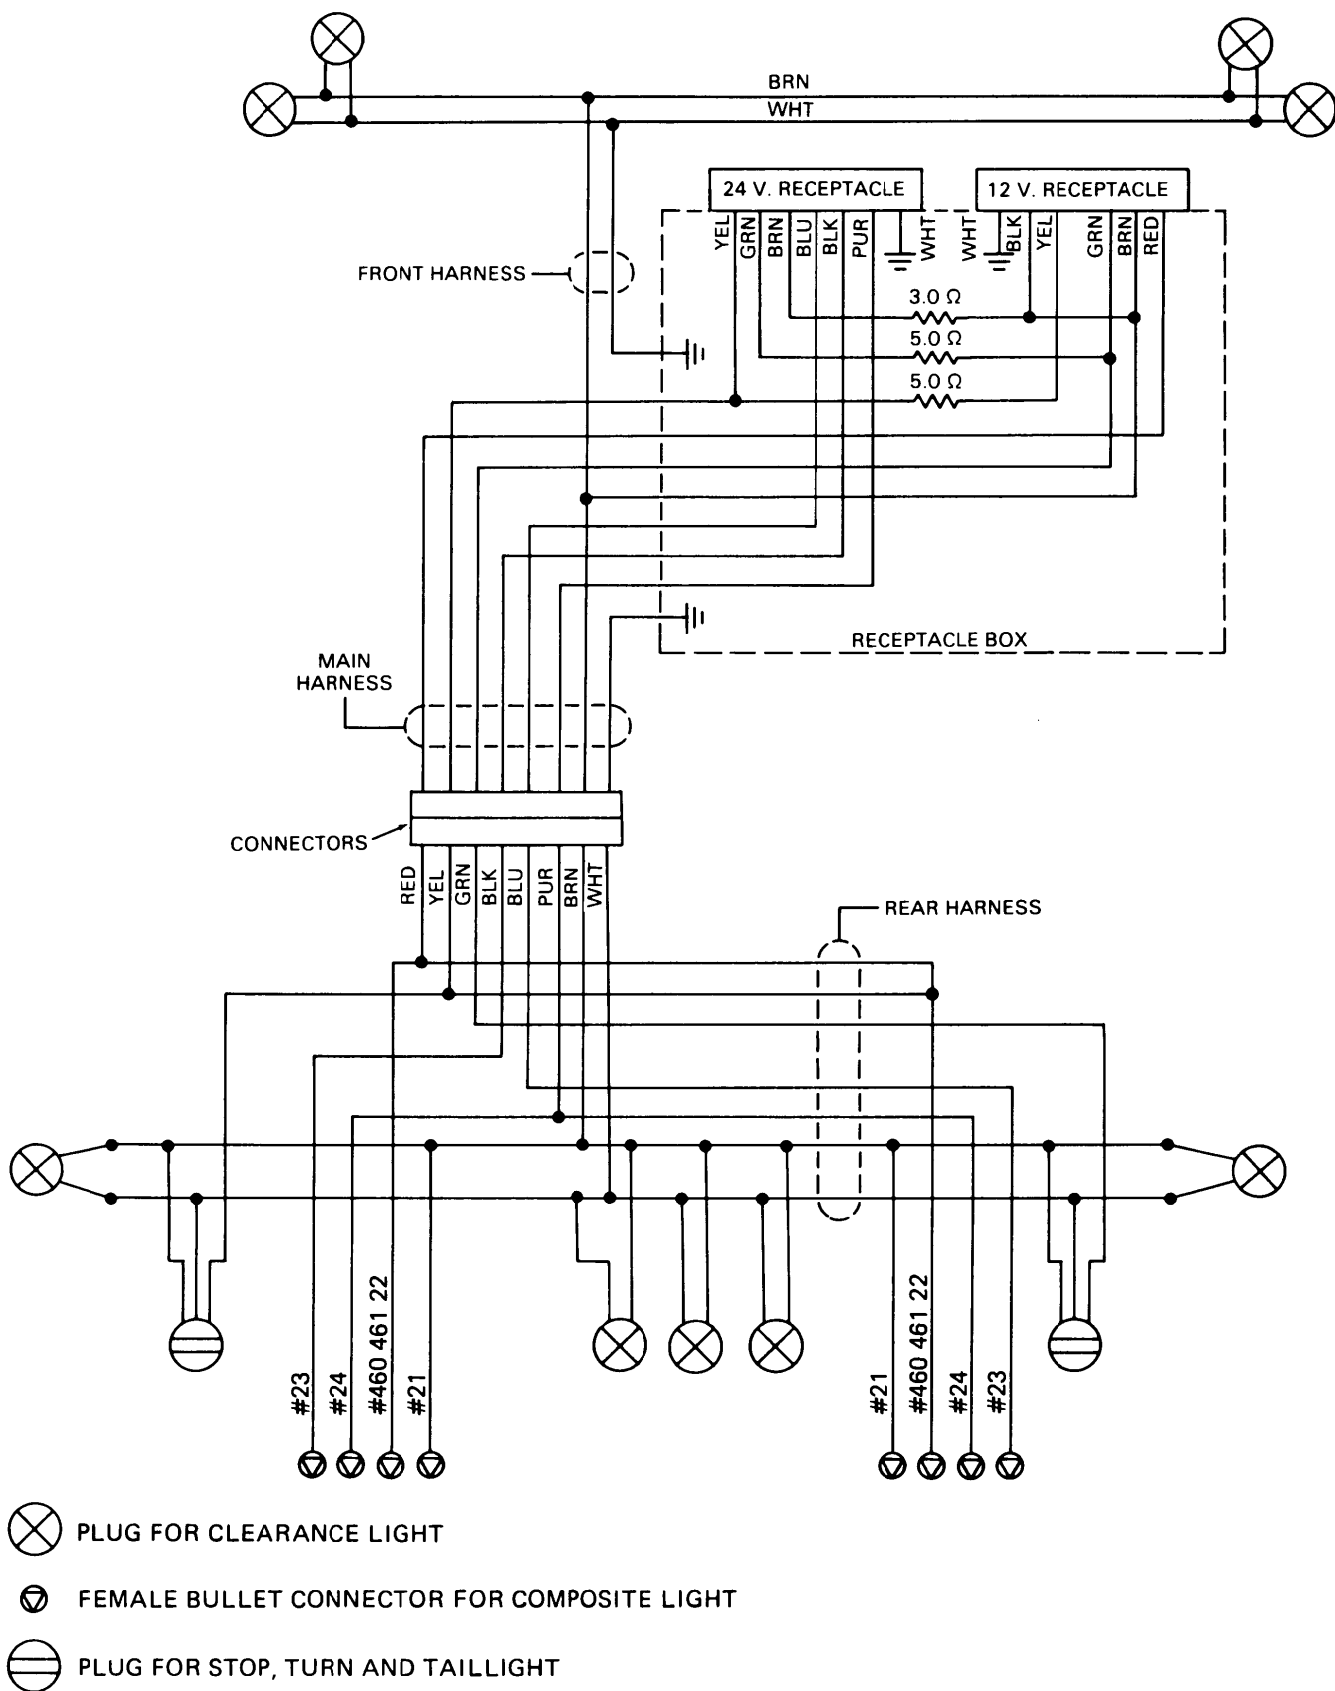

Figure 4-19. M871A1 Electrical Schematic
- (1) Install front wiring harness through the holes in the front of the kingpin plate (see wiring schematic, fig. 4-19).
- (2) Connect wires to terminal board. Install nose box cover assembly.
- (3) Install front clearance lights.
- (4) Connect clearance light cable connectors.
- (5) Check wiring harness for continuity.
- (1) Install rear wiring harness (see wiring schematic, fig. 4-19).
- (2) Connect coupling between rear wiring harness and main wiring harness.
- (3) Connect clearance, tail and composite light connectors on rear and side of semitrailer .
- (4) Check wiring harness for continuity.
- (1) Install main wiring harness (see electrical schematic, fig. 4-19).
- (3) Connect wires to terminal board. Install nose box cover assembly.